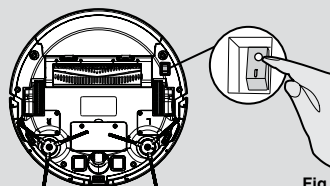

Fig. 9
Switch on the vacuum robot with the On/Off switch on the bottom (1). [Fig. 9] Set it down in front of the charging station.
1. Press the ON/OFF power switch on the bottom robot. [Fig. 9]